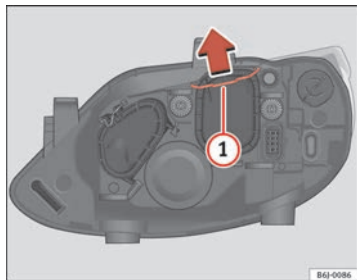

Fig. 142 Dipped beam headlights
- Remove the loop ⇒ fig. 142 **1** in the direction of the arrow and remove the cover.